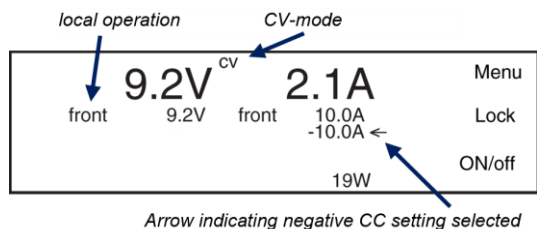

Figure 8.2: The second line shows the set value for voltage and for source current and sink current (with a minus sign).
- Check if the unit is in local operation: the text before the set values on the 2nd line must be 'front'. See Figure 8.2.